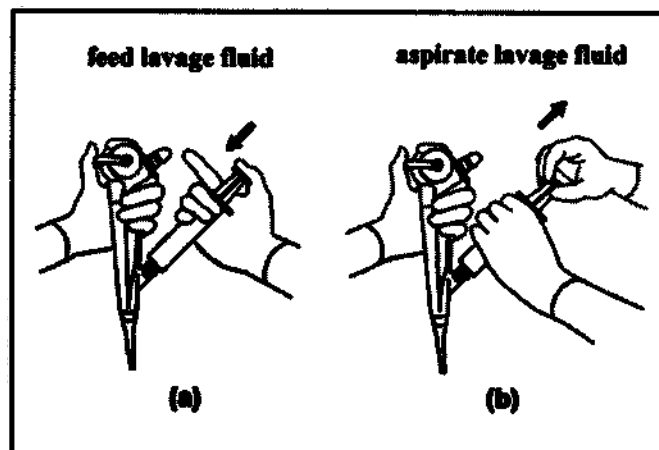

Fig 4.4
1. Securely insert a syringe filled with lavage fluid (e.g., vaseline) into the working channel port and press the plunger to feed lavage fluid. (Fig 4.4(a))
2. With the syringe attached, slowly withdraw the plunger to aspirate lavage fluid. (Fig 4.4(b))